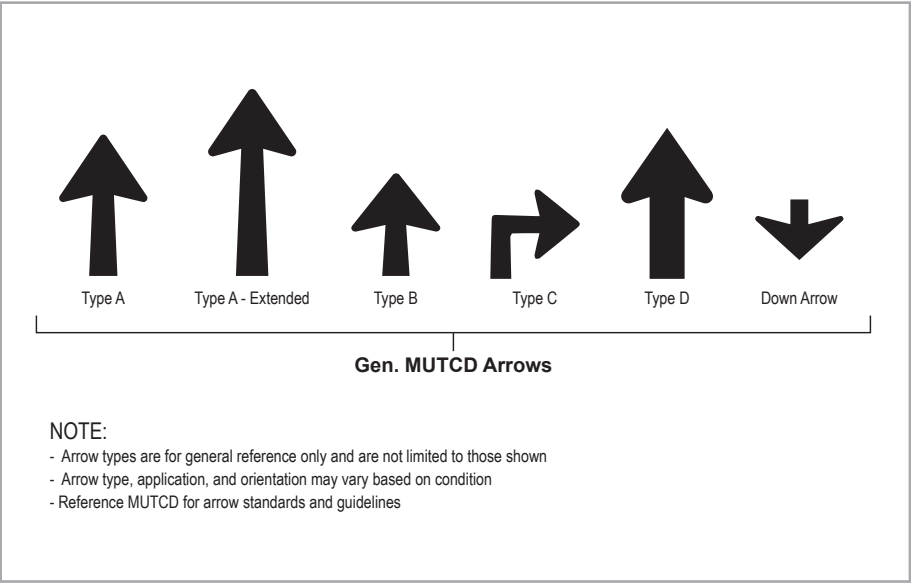

Figure 1.1.7h Wayfinding Arrows: Vehicular
- Arrow Sign Face Positioning/Sizing Relationship** (see Figure 1.1.7h to 1.1.7k)